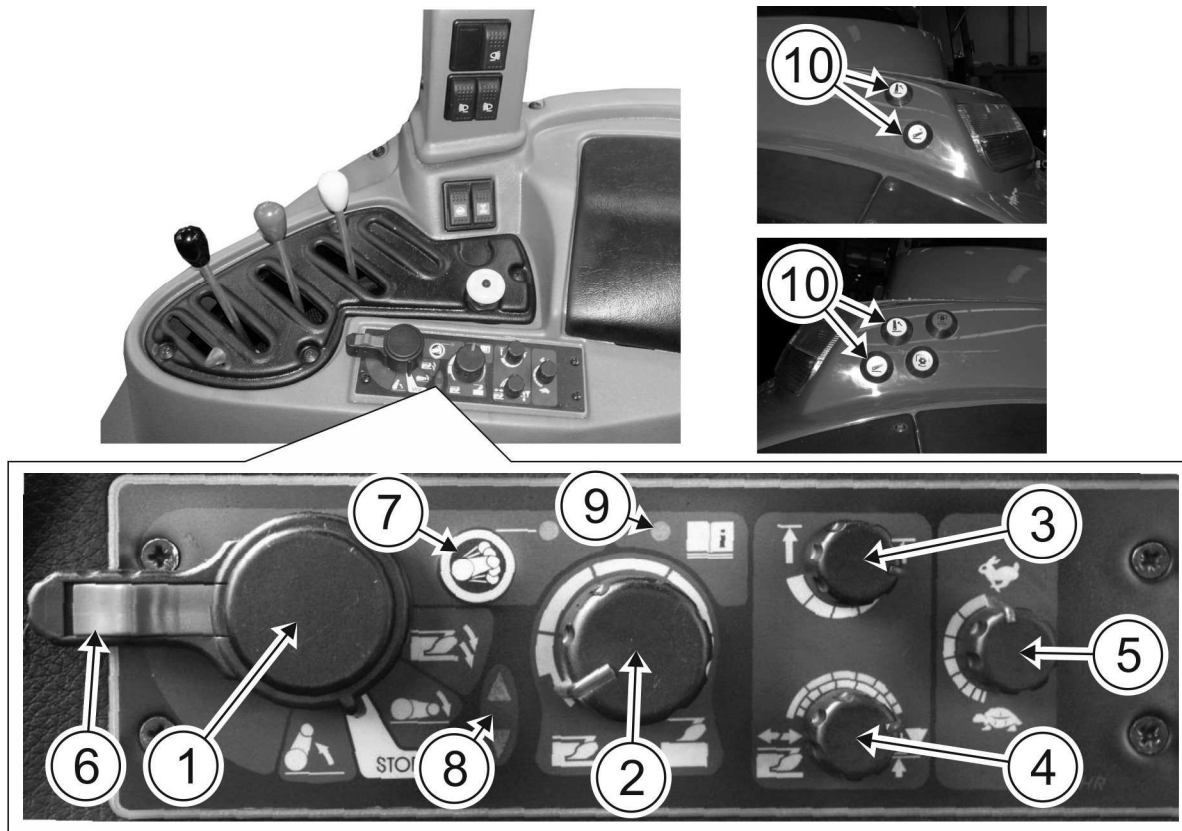

FIGURE 4.21 Control panel of EHR electrohydraulic system.
The electrohydraulic system of the rear three-point linkage is controlled by means of control panel (**FIGURE 4.21**) located on the right side of the seat and additional push-buttons **10** (**FIGURE 4.21**) for rising and lowering lower links, located on the rear mudguards, on the right side and the left side of the tractor (they are used when hitching agricultural machines and implements).
- using knob **4** (**FIGURE 4.21**), depending on type of fieldwork, determine the method of implement control (position, draft or mixed control);
Do NOT use tractor in the event of hydraulic pump malfunction, if the light 8 (FIGURE 4.21) is not extinguished after lifting the implement.
- set lever **1 (FIGURE 4.21)** in "raising" position (then the implement is raised to the extreme upper position)
- **The vibration suppression function is active only when lever 1 (FIGURE 4.21) is set in "raising" position.**